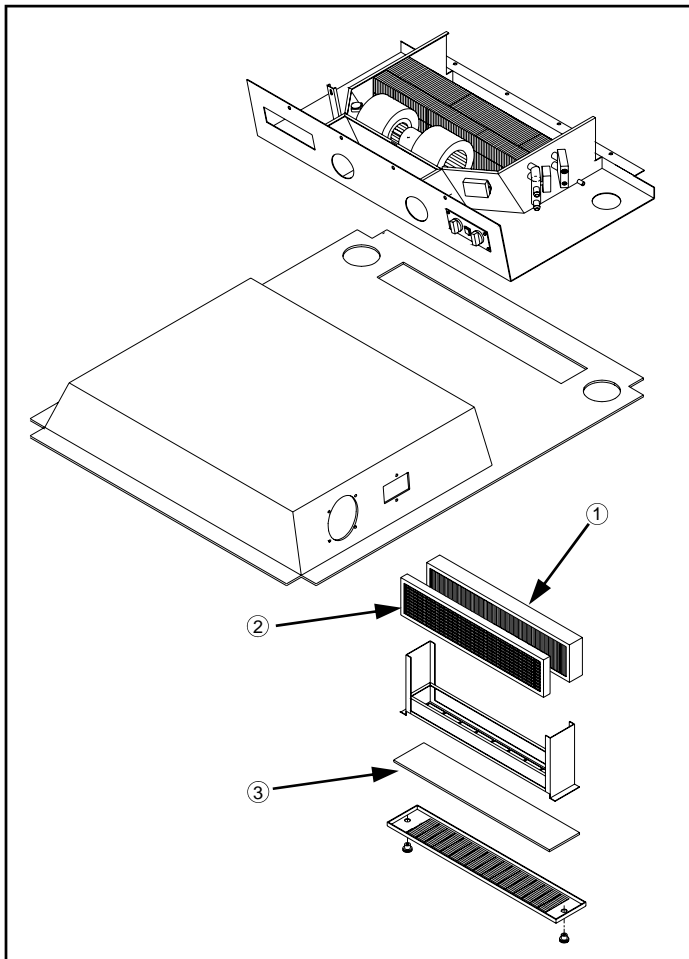

FIG 8.23
**PAPER FILTER** - (fig. 8.23, item 1) The paper filter should be cleaned once a year, or more often if necessary. Remove the paper element and gently tap it against a flat surface. Direct low
**CHARCOAL FILTER** - (fig. 8.23, item 2) Remove and replace at the first sign of chemical odor entering the cab.
**RECIRCULATING FILTER** - (fig. 8.23, item 3) The recirculating filter may be cleaned with soap and water. Replace if it becomes worn.